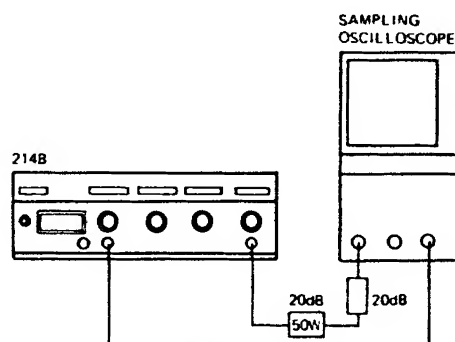

Figure 4-11
3. Change Test Setup as shown in Figure 4-11 to check Double Pulse Mode. Set 214B controls as follows: